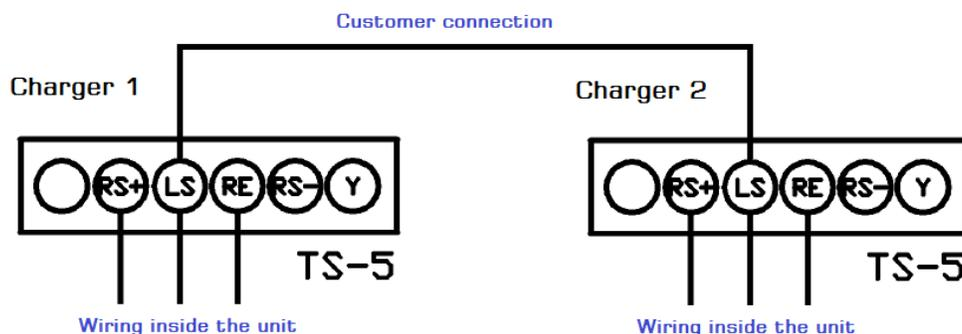

Figure 13 – TS-5 Terminal Connections (Schematic Wiring)
2. Connect the LS terminal of one charger to the LS terminal of the next charger. This connection can be made with a 16 AWG wire. Refer to Figure 13.